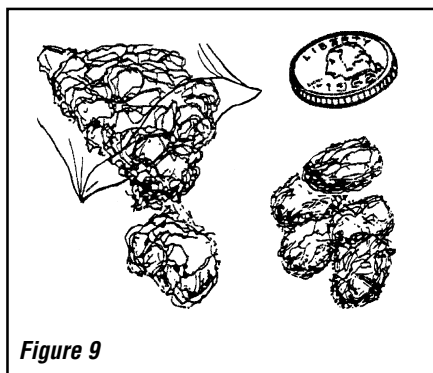
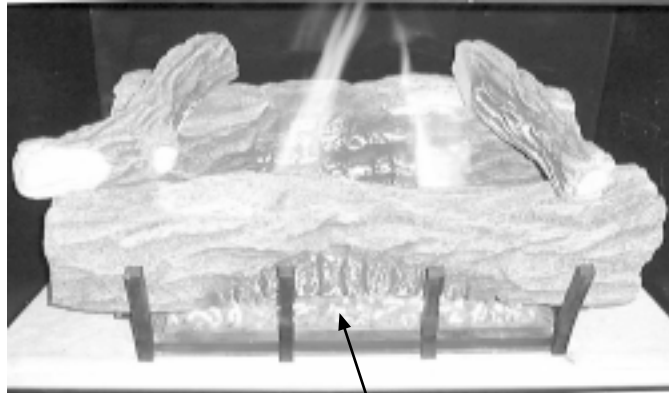

Figure 9
Figure 10
The logs are packaged within the firebox. The bag of rockwool is in the lower control compartment. Remove the rockwool from the packaging and tear into dime size pieces (*Figure 9*). Spread across the burner in front of the front log. See *Figure 10*. Do not use more than is necessary to cover the burner. When properly positioned, the rockwool will unevenly cover approximately 85% of the front of the burner with no appreciable gaps.
2. Adjust the pilot screw to provide properly sized pilot flame (*Figure 10*). Turn counter clockwise to enlarge pilot flame and clockwise to reduce the pilot flame. DO NOT attempt to adjust pilot flame more than one half turn.